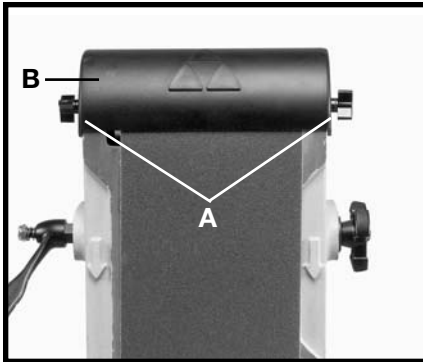

Fig. 17
2. Loosen the two lock knobs (A) Fig. 17, and remove the top cover (B).